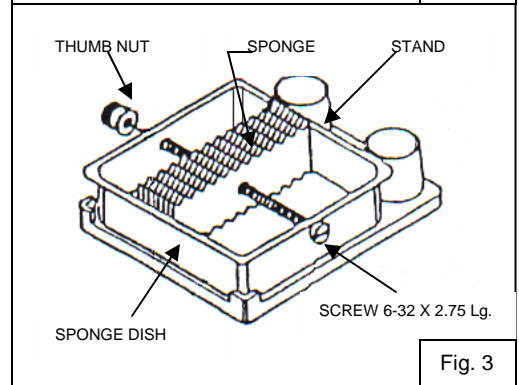

Fig. 3
5. Place the 7 sponges in the Sponge Dish as shown with the holes in the Sponge aligned with the 2 sponge Dish holes. Refer to Figure 3.
6. Install the 6-32 x 2.75 inch Screw through the holes in the sides of the Sponge Dish and the holes in the 7 Sponges. Refer to Figure 3.
7. Secure Screw in place using Thumb Nut. Refer to Figure 3.